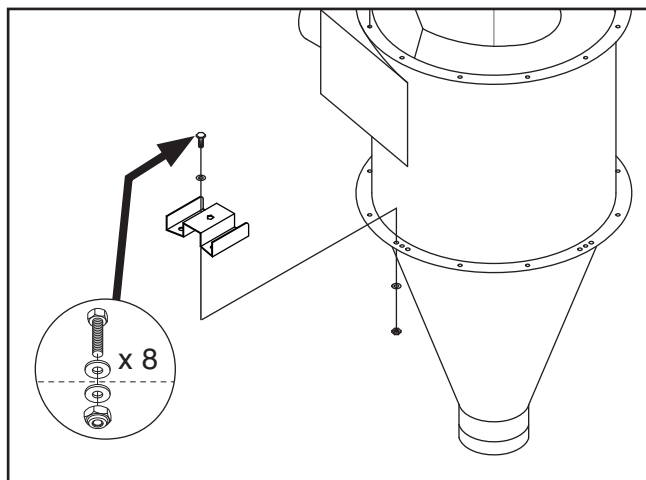

Figure 12. Collector mounting brackets and securing fasteners.
10. Attach (4) collector mounting brackets to intake assembly, as shown in **Figure 12**, with (8) $\frac{5}{16}$ "-18 x 1" hex bolts, (16) $\frac{5}{16}$ " flat washers, and (8) $\frac{5}{16}$ "-18 hex nuts.